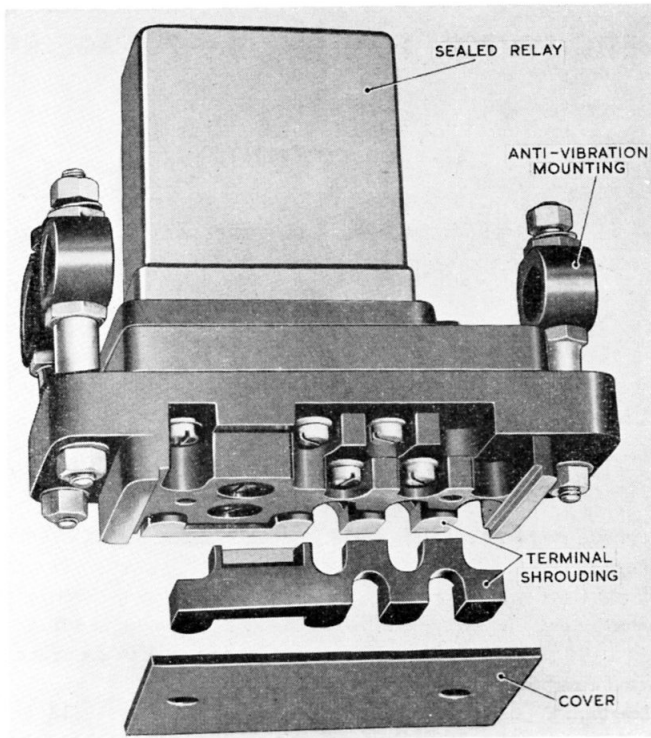

Fig. 1. Magnetic switch, Type 16B, No. 7
2. This switch (*fig. 1*) consists of a sealed relay, Type M1093 (Inter - Service Ref. Z530012) secured to a moulded Bakelite base plate having shrouded 6 B.A. terminals. The switch is designed for panel mounting, and is provided with three rubber anti-vibration mountings incorporating 4 B.A. fixing studs.